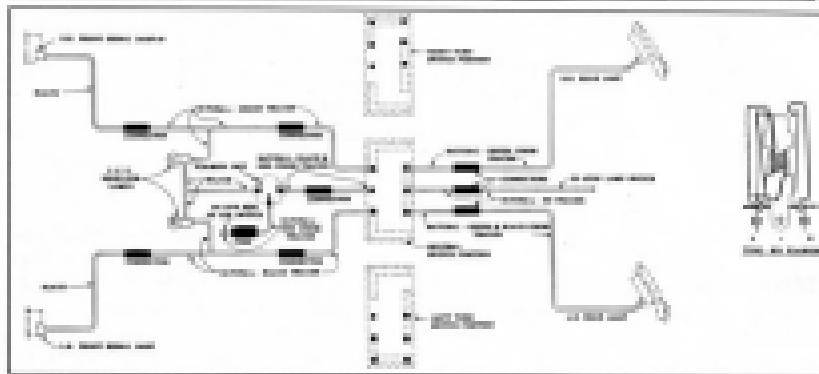

Fig. 625. Turn Signal Schematic Wiring Diagram.
3. Remove steering wheel and install switch parts as shown in Fig. 625.
4. Connect wires as shown in Fig. 624 and Fig. 625.